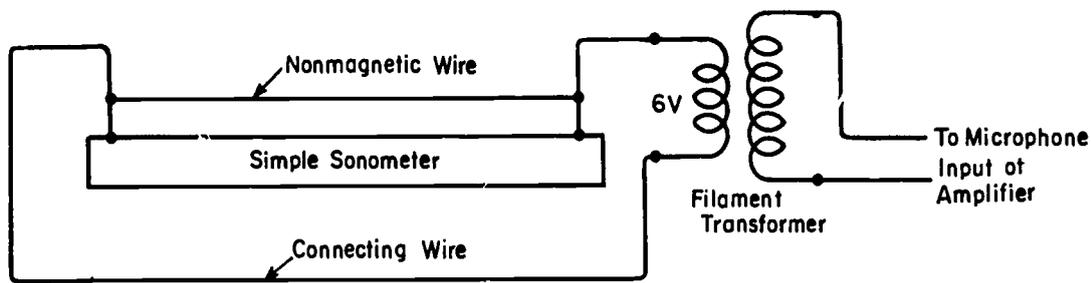

Figure 19
**Sonometers**—An interesting experiment can be developed to determine the modes of vibration of a nonmagnetic wire under different conditions of length and tension.1 The apparatus is set up as shown in Figure 19.